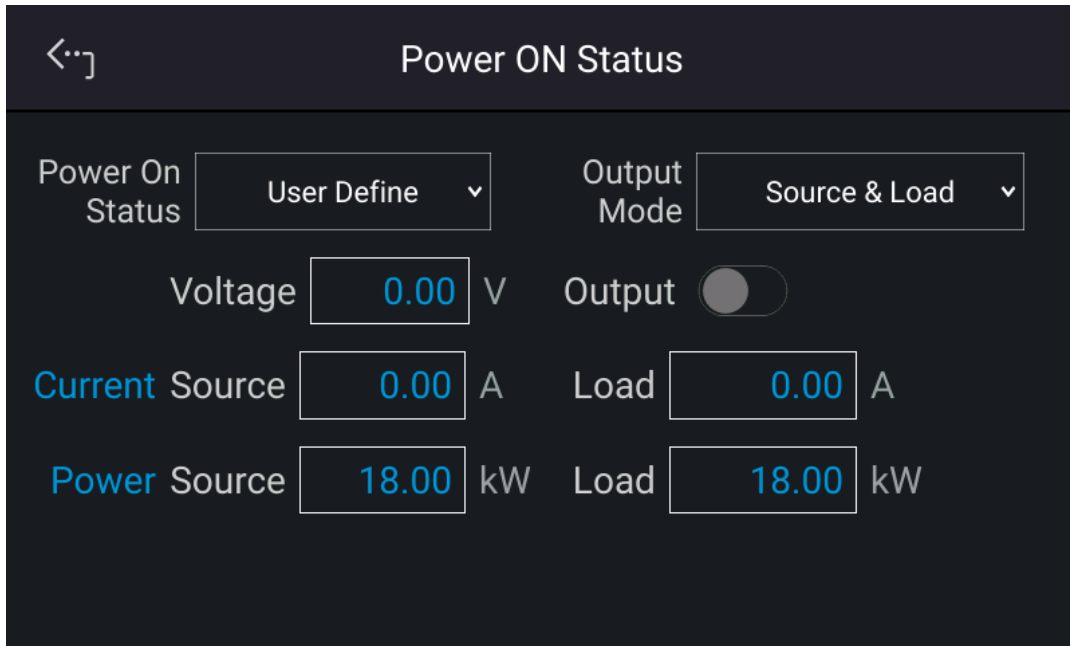

Figure 3-77
1. On the "Configuration" page, select "Power On Status" display will appear as Figure 3-77 shows.